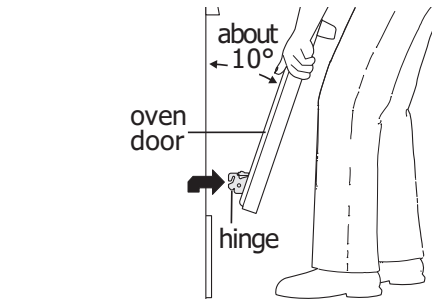

Figure 30: Holding door for removal
2. Pull the door hinge locks on both left and right door hinges down from the oven frame completely towards the oven door (See Figure 30). A tool such as a small flat-blade screwdriver may be required.
4. Push the door hinge locks up towards and into the oven frame on both left and right oven door hinges to the locked position (See Figure 30).